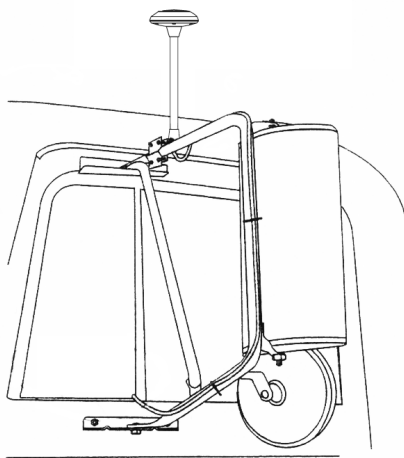

Figure 3- Mirror Mount Cable Routing
16. Route the cable through the vent window of the truck cab. Again **DO NOT BEND** the cable at 90 degree angles as this will break the coax center conductor causing the satellite receiver not to receive the satellite radio broadcast. See Figure 3.